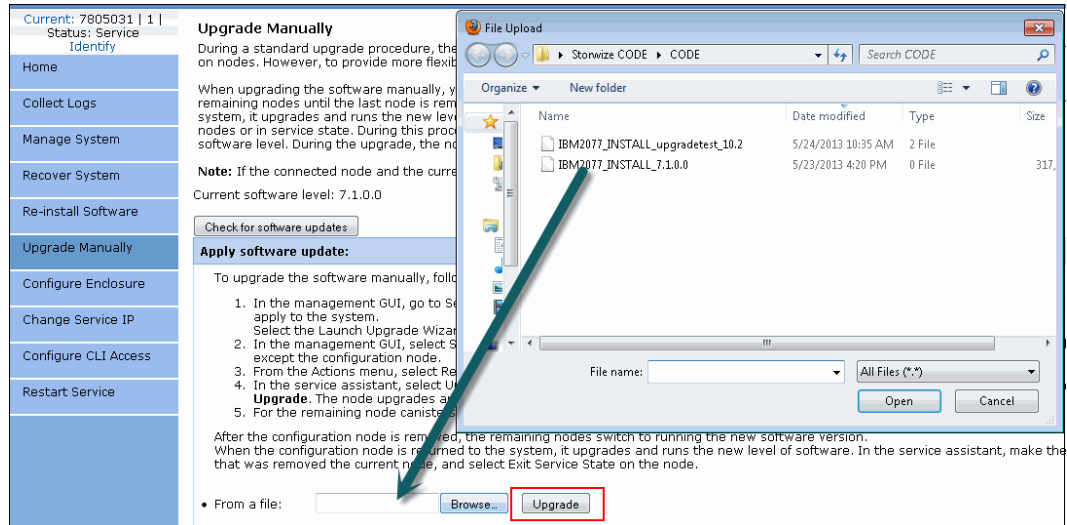

Figure 12-42 Select machine code file for upgrade
- In the Service Assistant panel, select **Upgrade Manually** and select the machine code version that you want to upgrade on selected node, as shown in Figure 12-42.